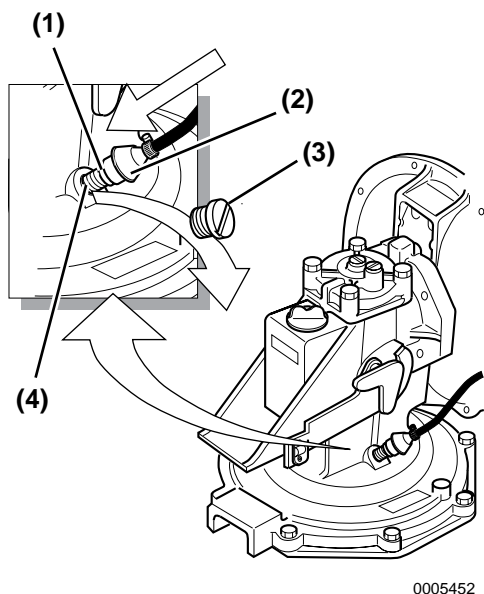

Figure 4
3. Attach a stiff rubber hose (inner diameter 14 to 16 mm [0.5 to 0.625 in.]) with hose clips to the adapter joint at the oil changing position (**Figure 4, (2)**). The hose must be long enough to reach the bucket or pump. If a Yanmar original rubber hose is to be used, the part number is 196440-92970.